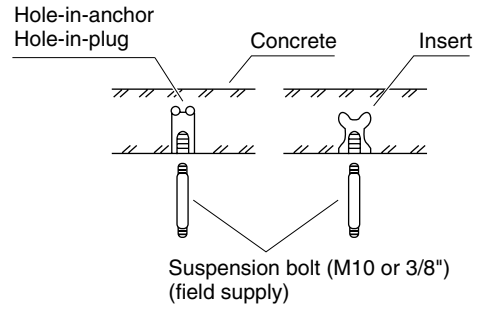

Fig. 3-169
- Insert suspension bolts as shown in Fig. 3-169
- (2) Screw in the suspension bolts allowing them to protrude from the ceiling as shown in Fig. 3-169. (Cut the ceiling material, if necessary.)